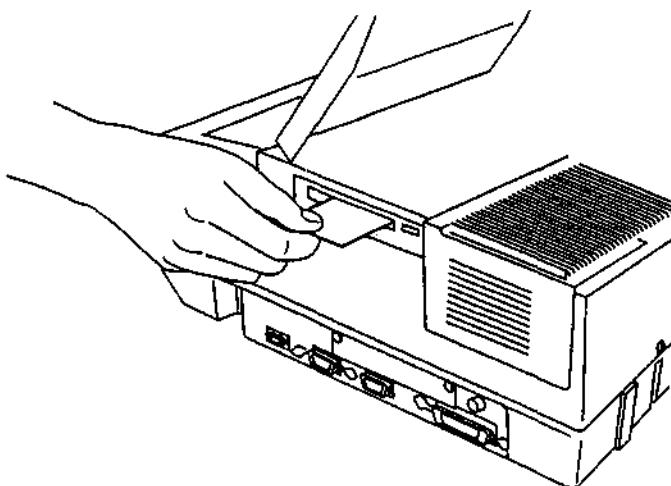

Fig 5.6.1 Inserting the IC card
- (1) Firmly insert the Program Pack into the IC card slot of the right side of the spectrophotometer.(shown in Fig 5.6.1) The Program Pack can be inserted/removed whenever the power switch of the spectrophotometer is ON or OFF.
(1) Firmly insert the Data Pack into the IC card slot of the right side of the spectrophotometer. (shown in Fig 5.6.1) The Data Pack can be inserted/removed whenever the power switch of the spectrophotometer is ON or OFF. The stored parameters and data in the Data Pack are kept after removing from the spectrophotometer, since the Data Pack has a own battery inside.